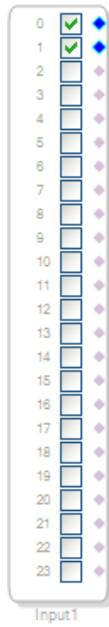

Figure 23. Stereo Input and Output
- Then press **Ctrl + V** to paste the copy of the cell. There should now be two output cells, as shown in Figure 23.